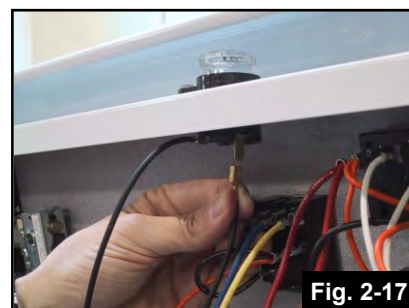

Fig. 2-17
2. Locate the fuse for the 120VAC outlet on the stove. Disconnect the wire which goes to the 120VAC outlet. (Fig.2-17)